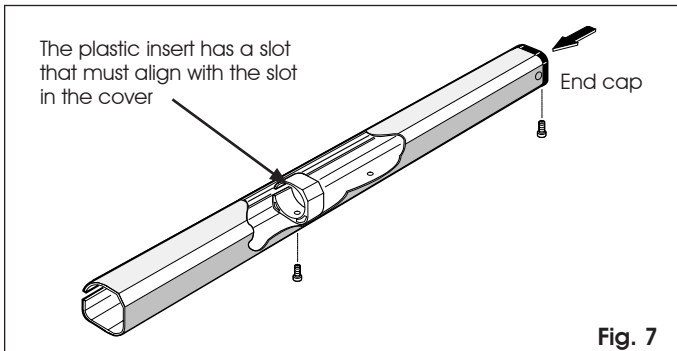

Fig. 7
- 12) Prepare the aluminum cover by positioning the plastic insert and the end cap as shown in fig. 7. Secure them with the short screws provided.